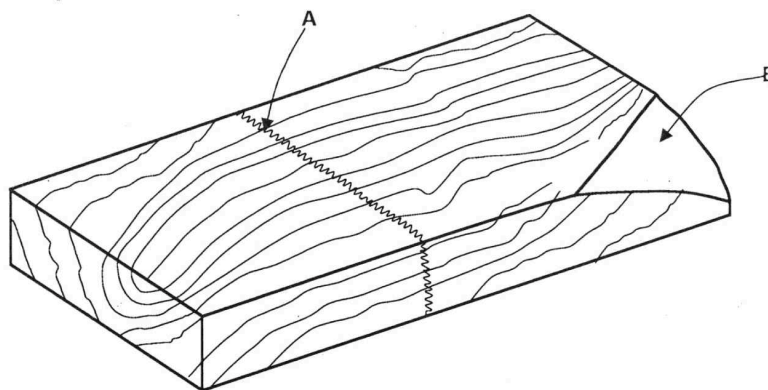

Figure 1
- 4 **Figure 1** shows a piece of timber with defects.